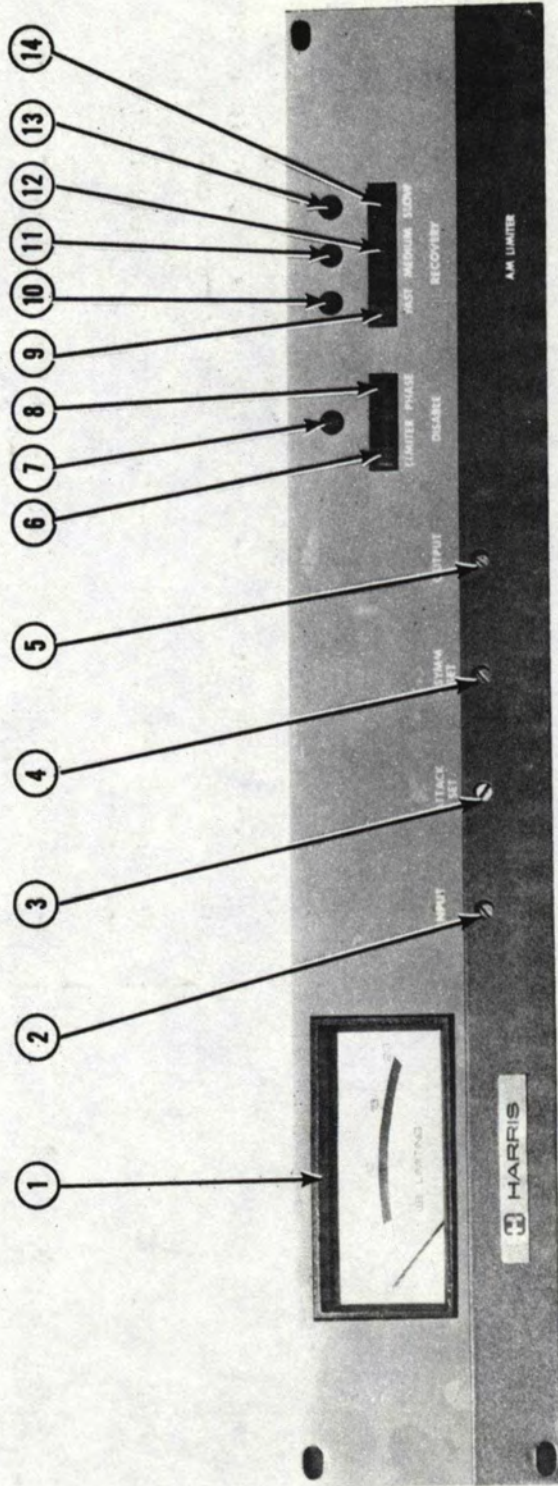

Figure 3-1. AM Limiter Controls and Indicators
3-4. All operating controls and indicators are located on the front panel of the AM Limiter. Figure 3-1 identifies the location of each control and indicator and table 3-1 describes the function.
a. Apply a normal input level (-14 to +26 VU) to the AM Limiter. Slowly turn INPUT attenuator AT1 (figure 3-1, item 2) in a clockwise direction and observe dB LIMITING meter M1 (figure 3-1, item 1). The meter pointer will move to the right, signifying that the unit is performing a limiting function.